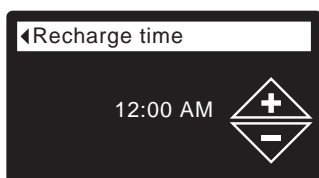

FIG. 53
5. Press the SELECT (O) button to display the Recharge time screen (See Figure 53).